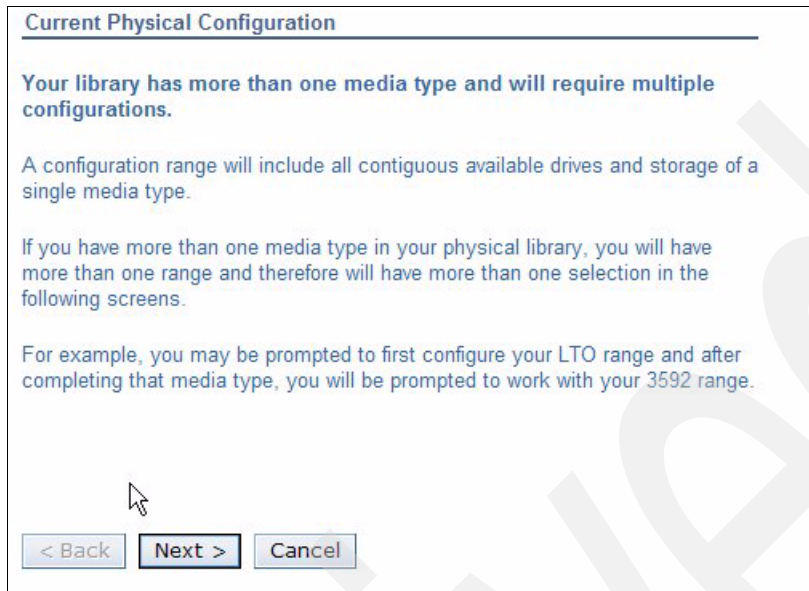

Figure 2-32 Multiple configurations warning.
6. Click **Next**. As this is a mixed device library, you get a warning about this, and that multiple configurations are necessary; see Figure 2-32.